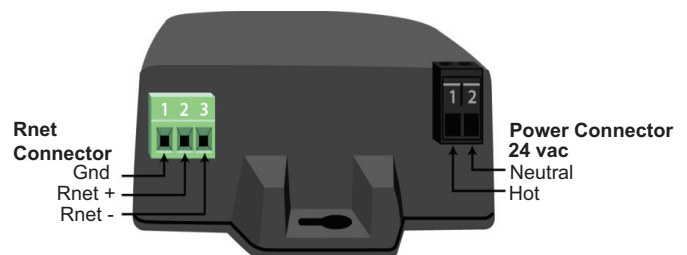

Fig. 7 — Wiring Rnet and Ground Terminals to the Controller
- NOTE: If using shielded wire, connect the shield wire and the ground wire to the **Gnd** terminal. See Fig. 7.